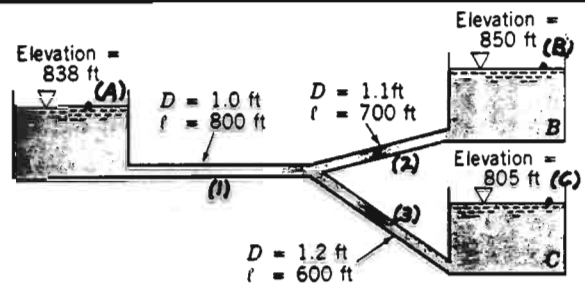

FIGURE P8.130
8.130 The three tanks shown in Fig. P8.130 are connected by pipes with friction factors of 0.03 for each pipe. Determine the water velocity in each pipe. Neglect minor losses.